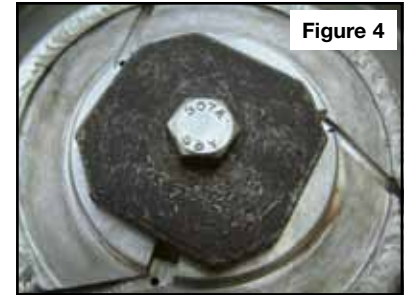

Figure 4
- d. Install a holding fixture to hold the repair plate. A 3/8" x 2-1/2" (9.53mm x 57.15mm) bolt and two oversized flat washers will work (**Figure 4**).